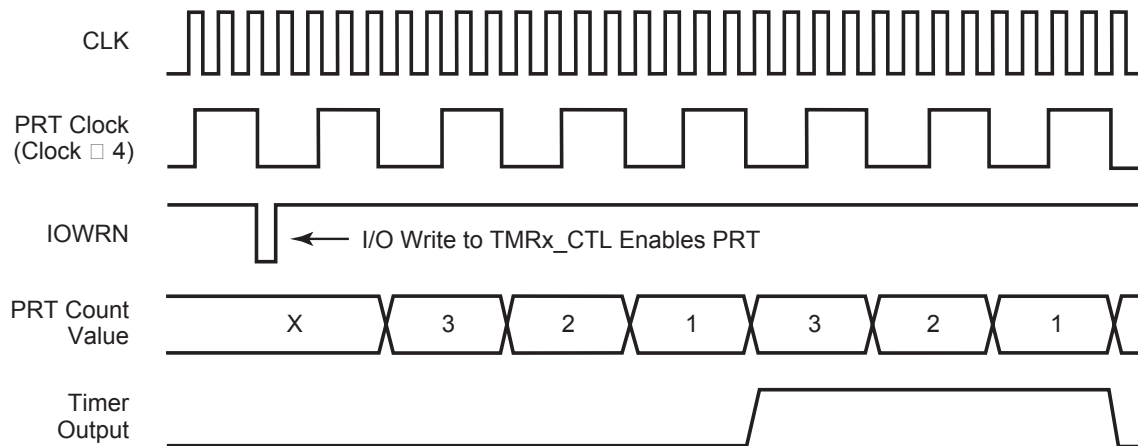

Figure 23. PRT Timer Output Operation Example
Two of the Programmable Reload Timers (Timers 4 and 5) can be directed to GPIO Port B output pins (PB4 and PB5, respectively). To enable the Timer Out feature, the GPIO port pin must be configured for alternate functions. After reset, the Timer Output feature is disabled by default. The GPIO output pin toggles each time the PRT reaches its end-of-count value. In CONTINUOUS mode operation, the disabling of the Timer Output feature results in a Timer Output signal period that is twice the PRT time-out period. Examples of the Timer Output operation are displayed in Figure 23 on page 81 and listed in Table 31 on page 81. In these examples, the GPIO output is assumed to be Low (0) when the Timer Output function is enabled.